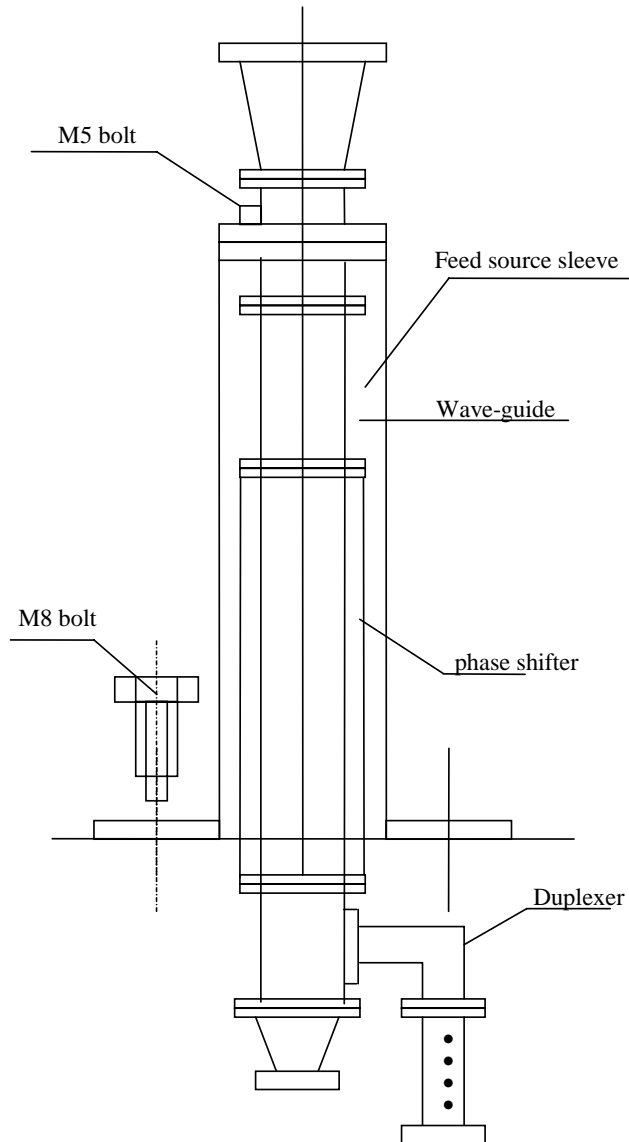

Fig. 8 Feed source system installation
2.3.5. Feed source system installation (Fig. 8)